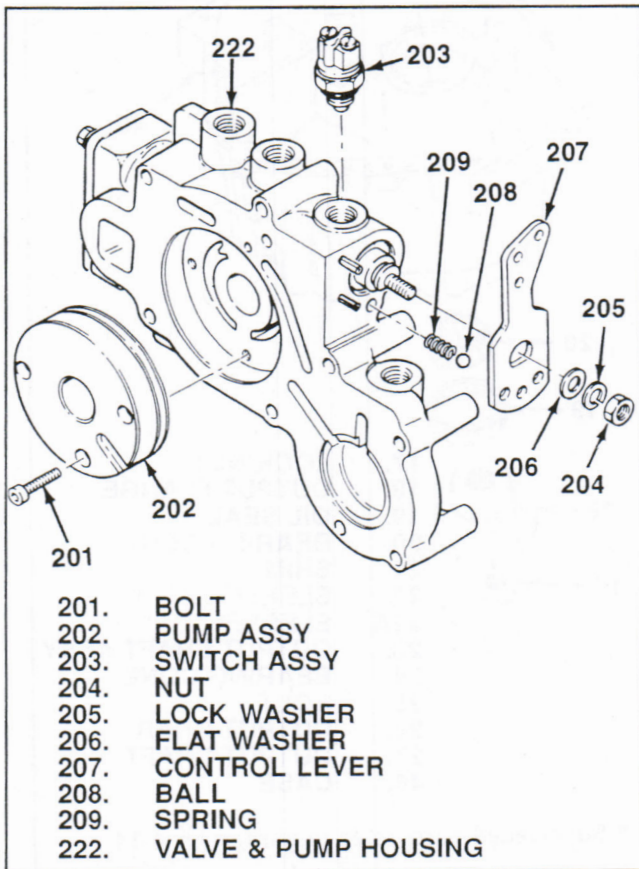

Figure 5-10. Control Lever, Switch and Pump
5-14. CONTROL LEVER, SWITCH AND PUMP ASSEMBLY. With control valve installed in valve and pump housing, proceed as follows (see figure 5-10):
1. Temporarily install transmission shift lever (207) on control valve previously installed, aligning flats. Turn lever and valve up to installed position as shown in figure 5-10. Remove control lever.
2. Install spring (209), ball (208) and shift lever (207). Holding control lever in place, as shown in illustration 5-10, install flat washer (206), lock washer (205) and nut (204). Holding lever, torque nut to 14-16 lb-ft (19-22 Nm).
3. Install switch assembly (203) Torque switch assembly to 20-25 lb-ft (27-34 Nm).
4. Position pump assembly (202) in valve and pump housing assembly (222) with counterbored holes for bolt head out. Align all three bolt holes and install bolts (201). Torque bolts to 6-8 lb-ft (8-11 Nm).